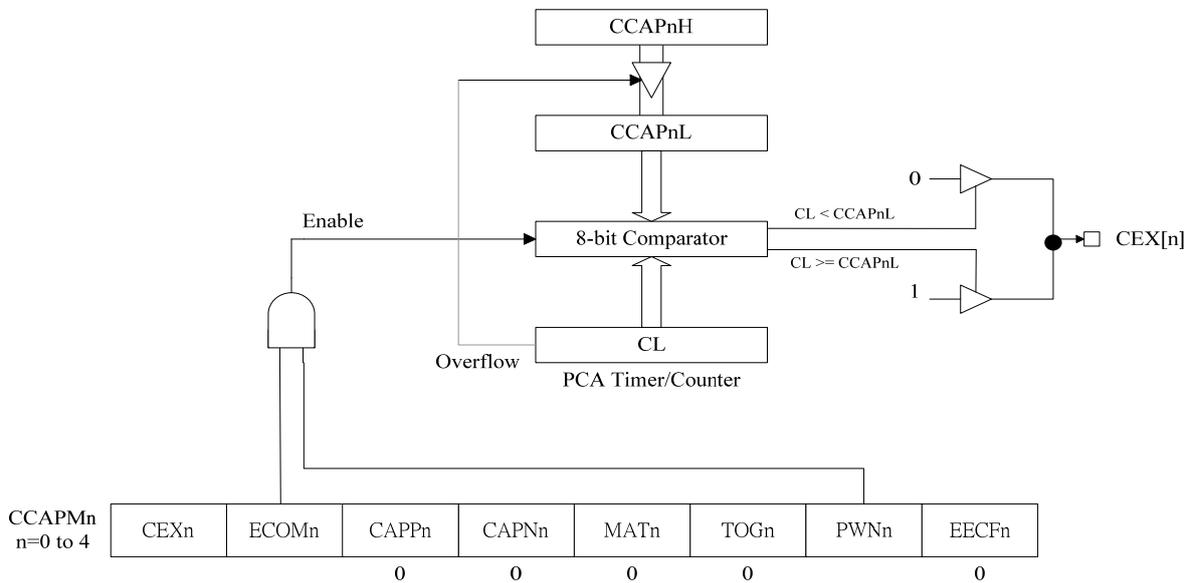

Figure 108: PCA Pulse Width Modulator Mode
The Pulse Width Modulator (PWM) mode is used to generate a continuous square-wave with an arbitrary duty cycle. As shown in Figure 108 below, it generates 8-bit PWM by comparing the low byte of the PCA timer (CL) with the low byte of the compare register (CCAPnL). When $CL < CCAPnL$ the output of CEX[n] is low. When $CL \geq CCAPnL$ the output CEX[n] is high. To activate this mode, the user must set the PWM and ECOM bits in the module's CCAPMn register.